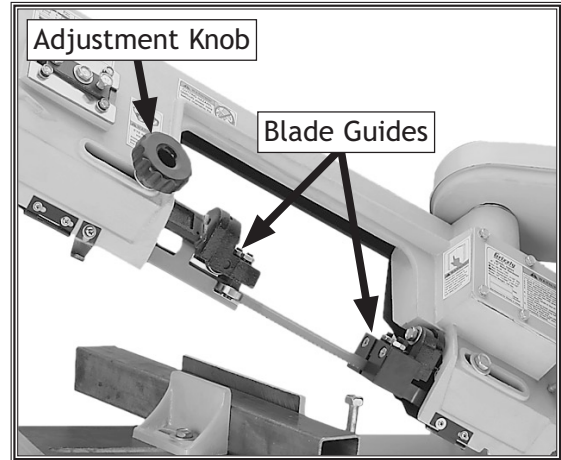

Figure 32. Blade guide adjustment knob.
2. Loosen the adjustment knob shown in **Figure 32** and slide the blade guide as close to the workpiece as possible, then re-tighten the knob.